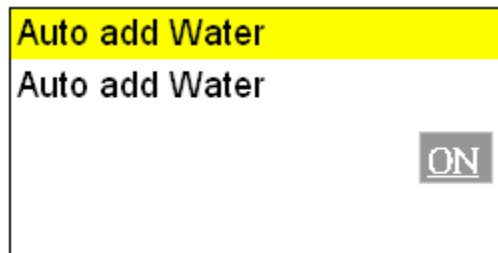

Figure 123
- C. Press  or  button to enable or disable the Auto add water, and press  button to store the parameter in Figure 123.